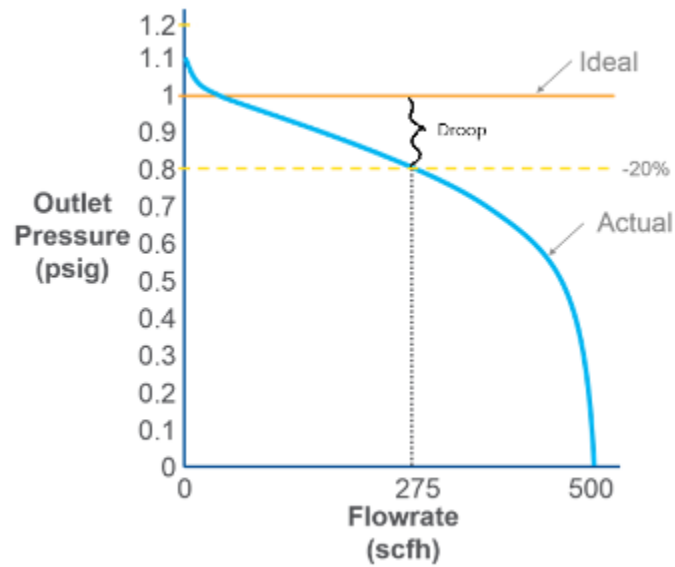

Figure 28. Droop accuracy bounds
In Figure 28 for a 20% accuracy, 275 SCFH flow would be published because that is the maximum flowrate before the regulator's performance droops outside the 20% accuracy bounds. If the flow demand is less than 275 SCFH, the outlet pressure will be closer to setpoint. Likewise, if flow demand
- Figure 28. “Droop accuracy bounds” from Emerson is used and adapted for educational purposes under the basis of fair dealing.